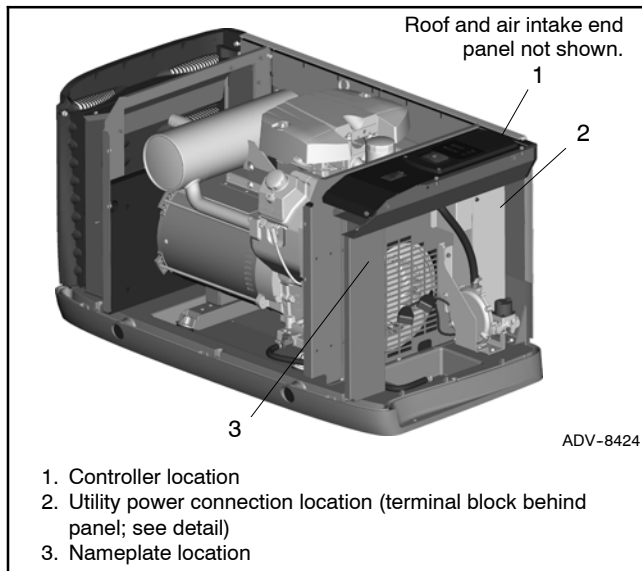
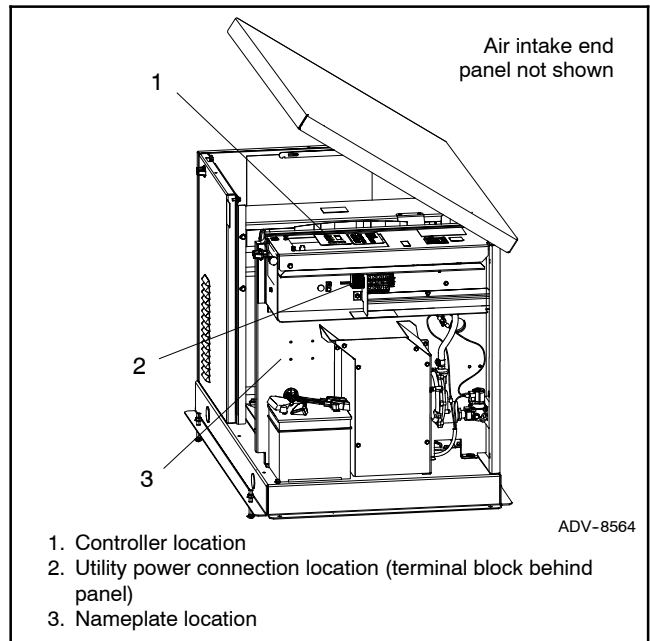
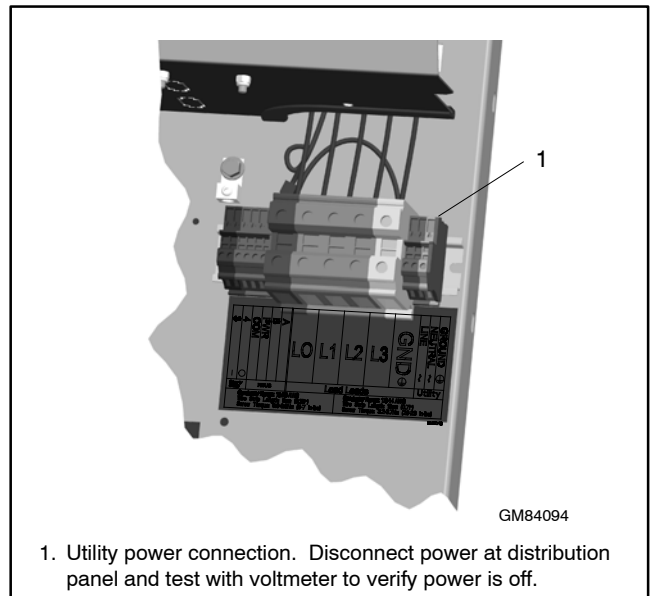

Figure 13 Component Locations, 14/20RESA/C
Figure 14 Component Locations, 20RESB/D
Figure 15 Power Connection Detail (RESA shown)
5. Disconnect utility power to the generator set by opening the circuit breaker in the building's distribution panel. Use a voltmeter to verify that utility power has been disconnected. See Figure 13 (14/20RESA/L) or Figure 14 (20RESB) for the utility power connection location. See Figure 15 for the power connection detail on the generator set terminal block.